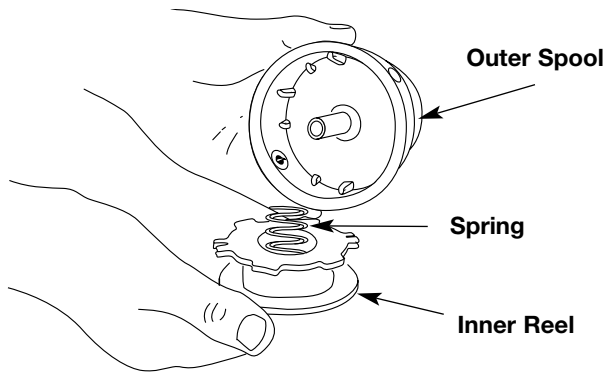

Figure 19
- Remove the inner reel from the outer spool. See Figure 19.
- Remove spring from the inner reel. See Figure 19.
2. Remove the old inner reel from the outer spool. See Figure 19.
3. Remove the spring from the old inner reel. See Figure 19.